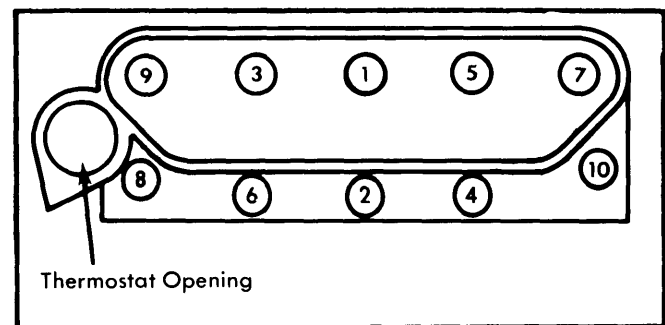

Fig. 1 Cylinder Head Bolt Tightening Sequence
**Installation —** To install, reverse removal procedure and tighten head bolts in increments in sequence shown in Fig 1. Adjust valve clearance to specifications.